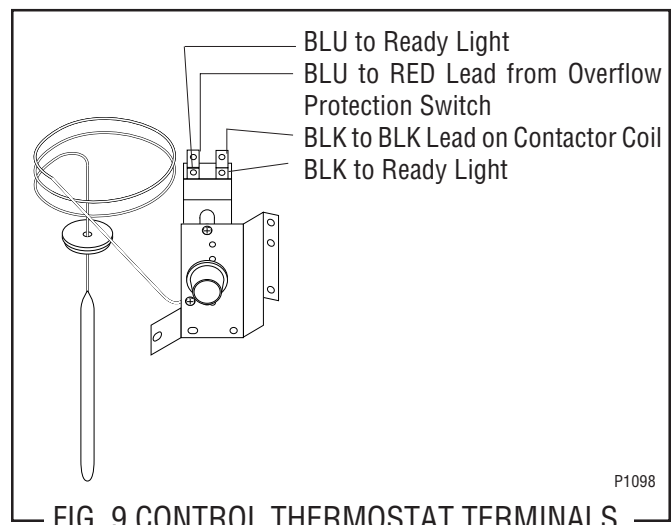

FIG. 9 CONTROL THERMOSTAT TERMINALS
8. Refer to Fig. 9 when reconnecting the wires.